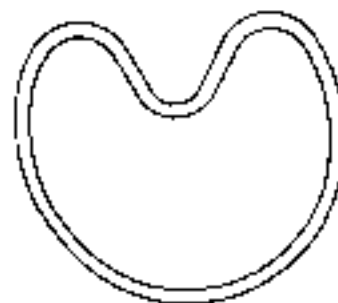

Fig. 8 Inserting seal ass'y (5)
- 1) Coat O ring (6) lightly with vaseline (or hydraulic oil) and install in the O ring groove. Also make sure that the O ring is not distorted after installation
- 3) Slipper ring is assembled, after first inserting the backup ring, by slightly-changing the shape as shown in Fig.8. Also after inserting all of the seals, be certain that these are installed in the seal groove by use of the spatula.